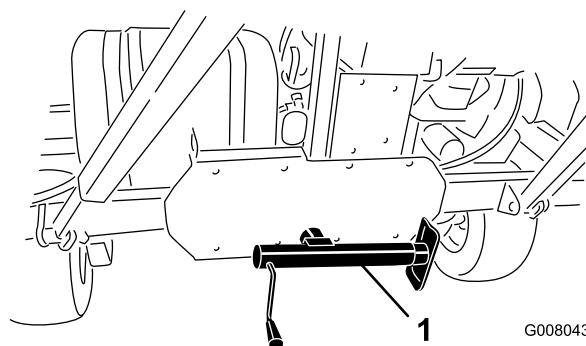

Figure 17
5. Lower the jack to the ground to stabilize the machine (Figure 17).